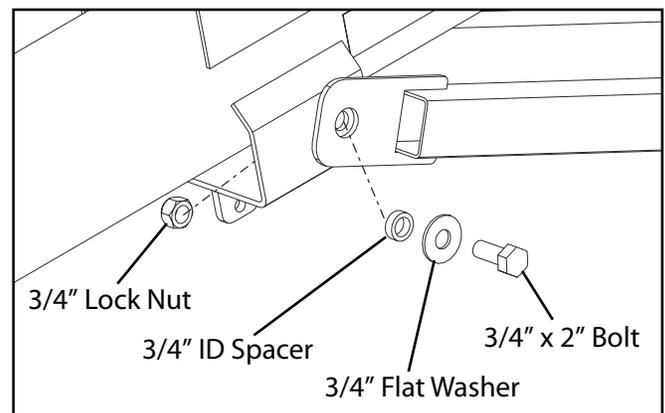

FIG. 3-18. Axle Frame to Tube Installation
18. Rotate the Axle Frame up and connect it to the tube using a 3/4" x 2" bolt, 3/4" flat washer, 3/4" ID Spacer and a 3/4" lock nut on both sides. See Fig. 3-18.